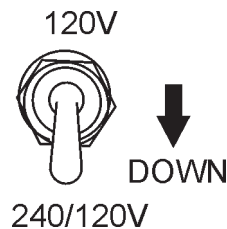

Figure 19. Full Power Switch (Down)
- Place the **full power switch** (Figure 19) in the "240/120V" (Down) position.